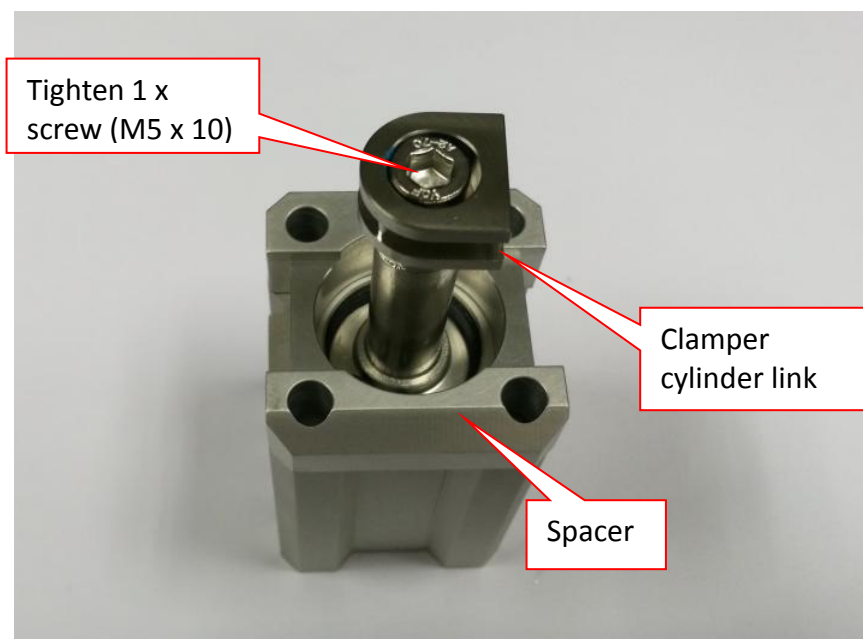

Figure 10 Clamper Cylinder Link Assembly
1. Assemble Spacer & Clamper Cylinder Link to New Clamper Cylinder. Tighten 1 x Screw (M5 x 10) as shown in Figure 10.